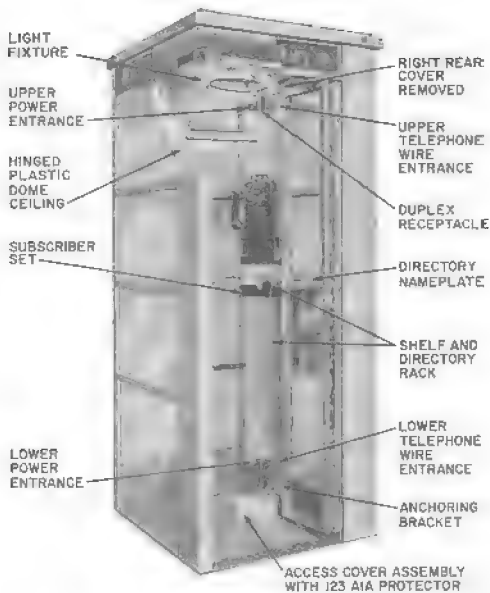

Fig. 2—KS-14611 Booth Showing Individual Features.
BASIC BOOTH (Fig. 2)
2.14 Access covers (Fig. 2), located at the top and bottom of the right-rear column, provide access to the channels from inside the booth.